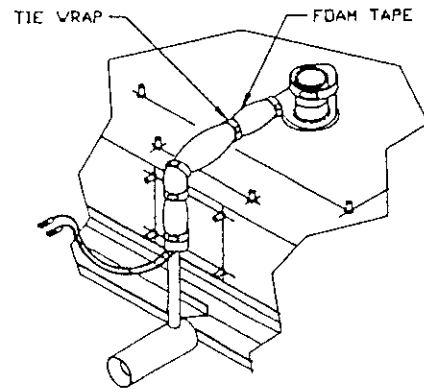

Figure 78
8. Wrap tube and suction fitting with foam insulating tape and secure with tie wraps. (See Figure 78.)